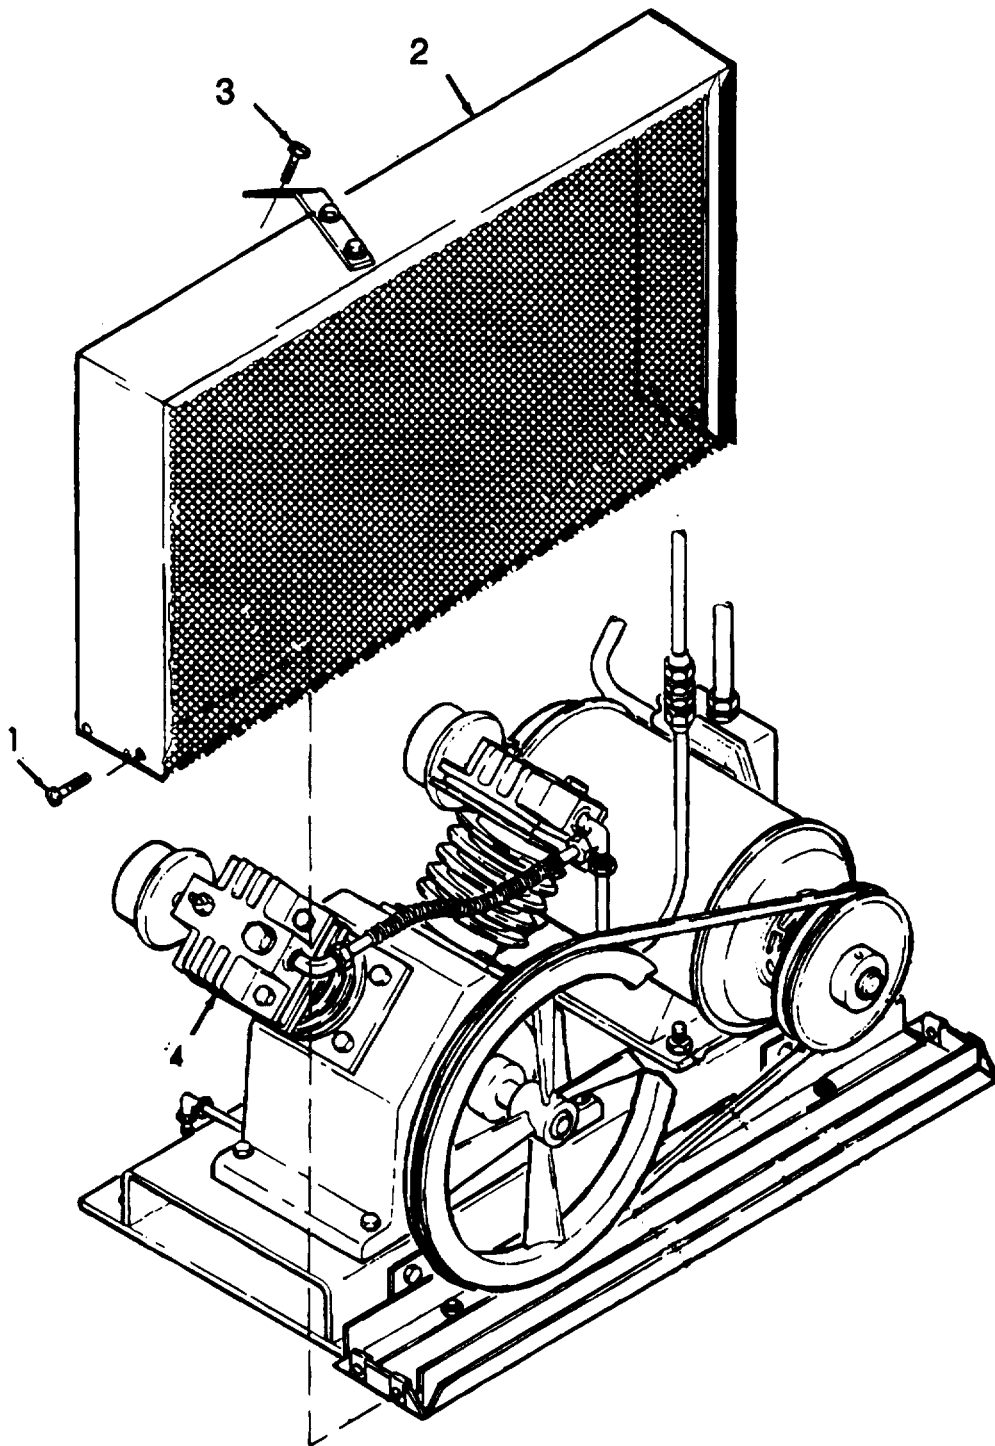

Figure 4-4. Belt Guard, Removal/Installation.
- a. Removal.** (Refer to figure 4-4).
- (1) Remove four screws (1) from belt guard (2).
- (2) Remove bolt (3) from belt guard (2) and air compressor (4).
- (3) Remove belt guard (2) from air compressor (4).